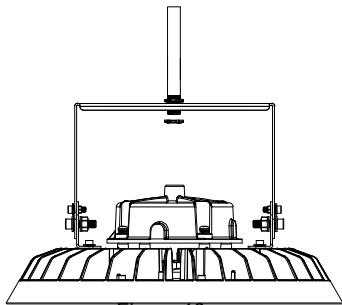

Figure 10
① Unscrew the nuts on 1/2 "NTP. Insert 1/2"NTP stem into the bracket hole (Figure10)